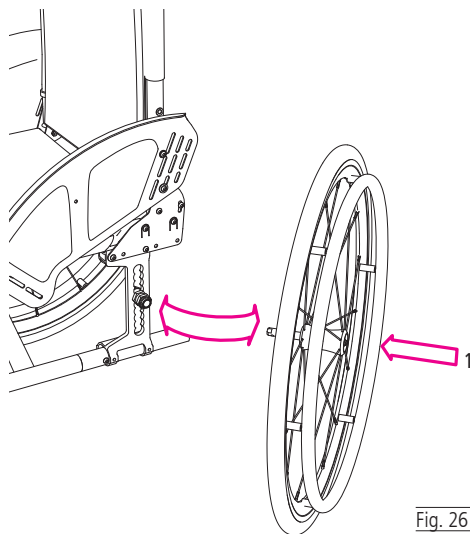

Fig. 26
1. Pressing the button in the centre of the wheel hub releases the rear wheel lock (1, Fig. 26).